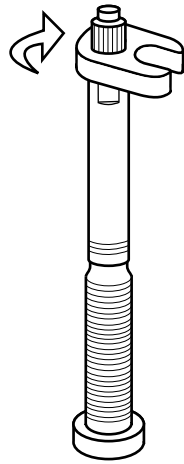

Figure 50. Tighten valve core with key turning clockwise.
7. Place key over valve core, lining up flats, and turn clockwise. Note: should be snug. Do not over tighten as it may damage the extender (Figure 50).